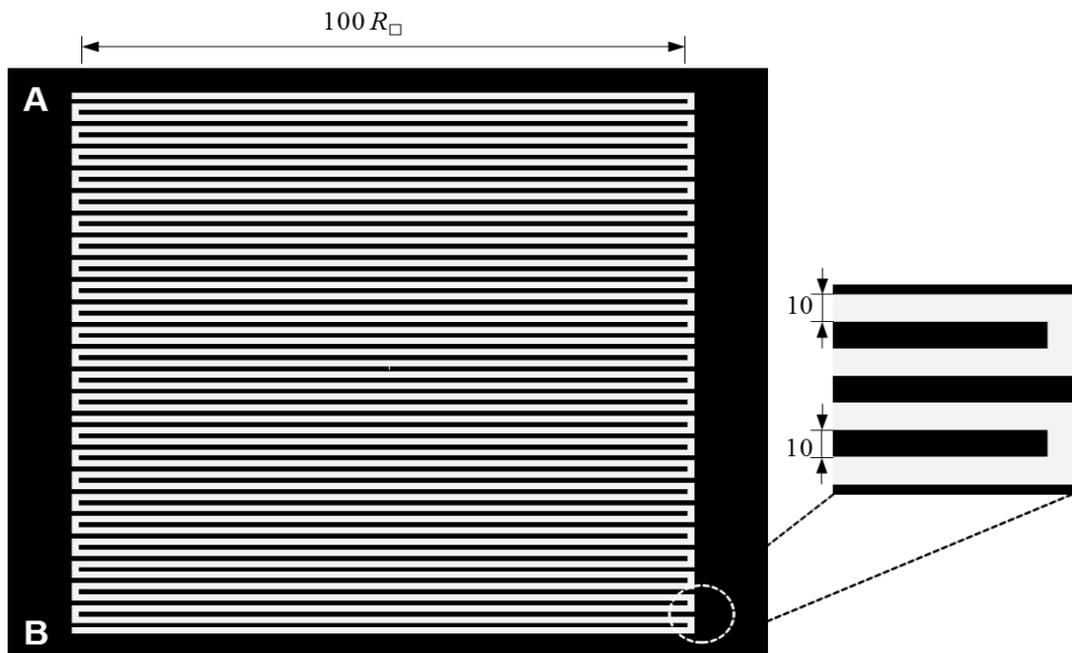

Figure 2: A test structure layout in a serpentine pattern.
We can make a guess that metal3 sheet resistance of the C5 process may be around 0.05Ω . Lets lay out a test structure consists of approximately $5000 R_{\square}$ in order to reduce the error term in Eq. (1). Lets also try to avoid elecromigration as well as large layout size by setting the width of the metal3 to be twice of the minimum in DRC rules, or a drawn width of 10. If there are 100 R_{\square} in a single row of the structure, we then need about 50 rows. This layout is shown in Fig. 2.
Since there are corners in the serpentine pattern, the layout in Fig. 2 only has 49 rows. Therefore $N_R=49$ and $N_L=100$. Using Eq. (5), the relation between R_{\square} and test voltage V_{AB} and measured current I_{AB} is